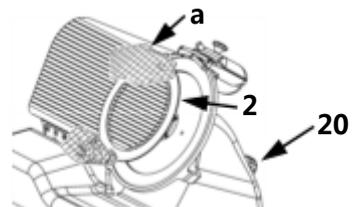

Fig. 30
Cut protection gloves (a, fig. 30) and a damp cloth are necessary for cleaning of the blade.
- In order to remove the blade protection (2) for cleaning loosen the retaining screw (d) on the back side of the device (fig. 30) and remove the blade protection (2).
- To clean the back side of the blade (1) and the blade protective ring (3) proceed in the following way:
- Remove the blade protection (2) (fig. 30);